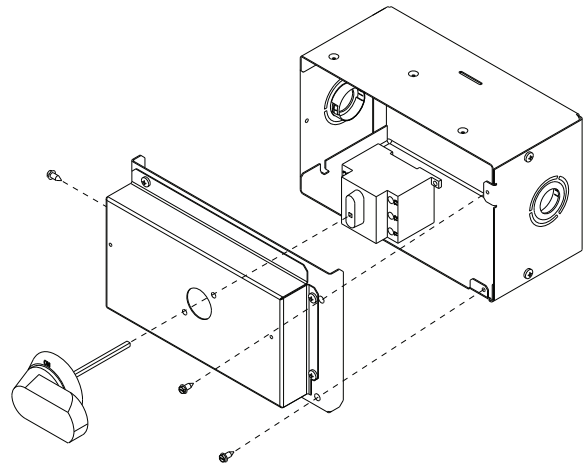

Fig. 46 — Handle and Shaft Assembly for NFD (Sizes 090-150)
1. Remove the unit front panel (see Fig. 46 and 47).
2. Remove (3) hex screws on the NFD enclosure - (2) on the face of the cover and (1) on the left side cover.
10. Secure the handle to the painted cover with (2) screws and lock washers supplied.
11. Engaging the shaft into the handle socket, re-install (3) hex screws on the NFD enclosure.